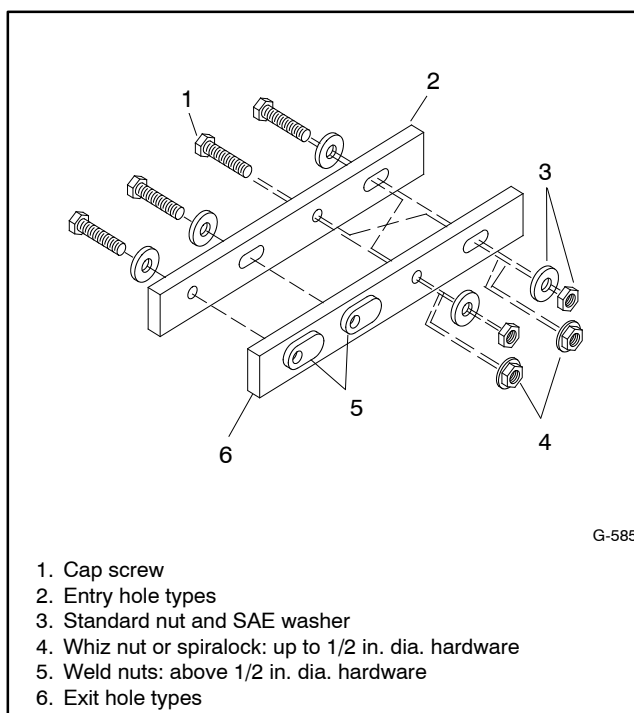

Figure 2 Acceptable Hardware Combinations
For round and slotted exit holes, determine if hardware is greater than 1/2 inch in diameter, or 1/2 inch in diameter or less. Hardware that is *greater than 1/2 inch* in diameter takes a standard nut and SAE washer. Hardware *1/2 inch or less* in diameter can take a properly torqued whiz nut or spiralock nut. See Figure 2.
4. Refer to Figure 2, which depicts the preceding hardware configuration possibilities.